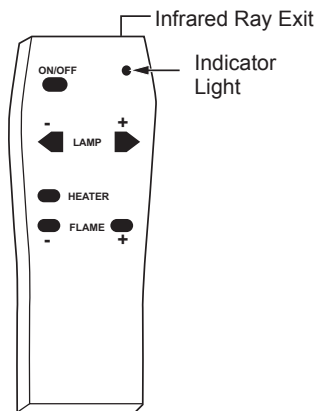

Figure 5 - Remote Control For Electric Fireplace
4. **Flame Control Button:** This button is located to the right of the Temperature Button (see Figure 5). After power is on, push the Flame Control Button to adjust flame and ember bed brightness. Press and release the Flame Control Button to cycle through settings.